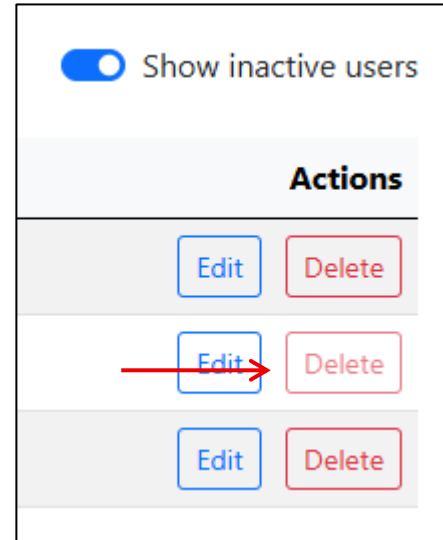

Figure 11: The Delete button sets a user to inactive
2. Locate the desired user and click the **Delete** button (fig. 11) in the corresponding user row. (you can also deactivate a user through the Edit User action)